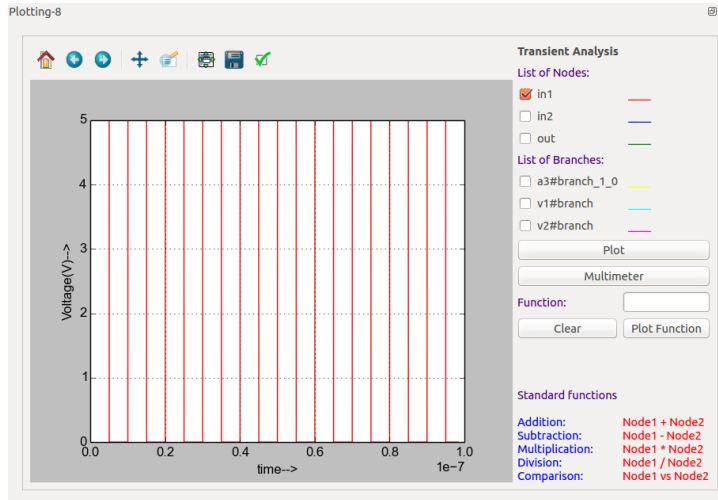
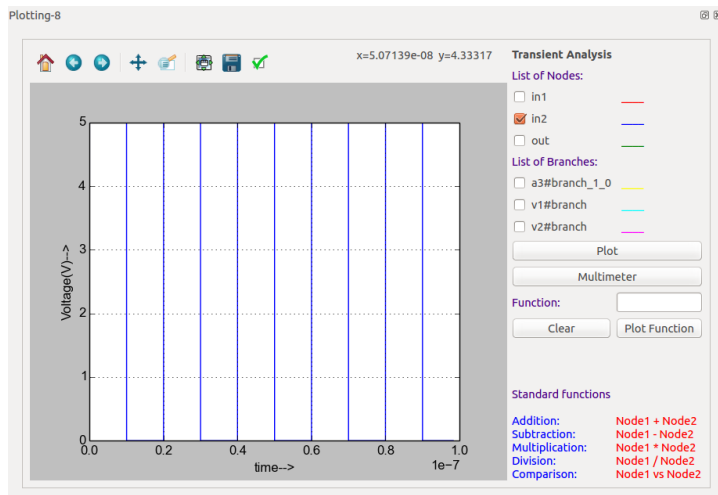
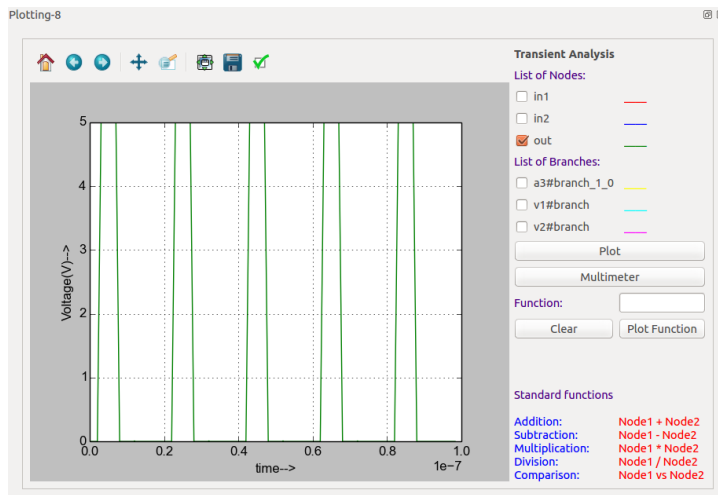

Figure 9.17: Plot of Source V1
Figure 9.18: Plot of source V2
Figure 9.19: Plot of output
9. Now select the required nodes and click on **Plot** button. You can see the plots of input source v1, input source v2 and output as shown in Fig. 9.17, Fig. 9.18, and Fig. 9.19 respectively.